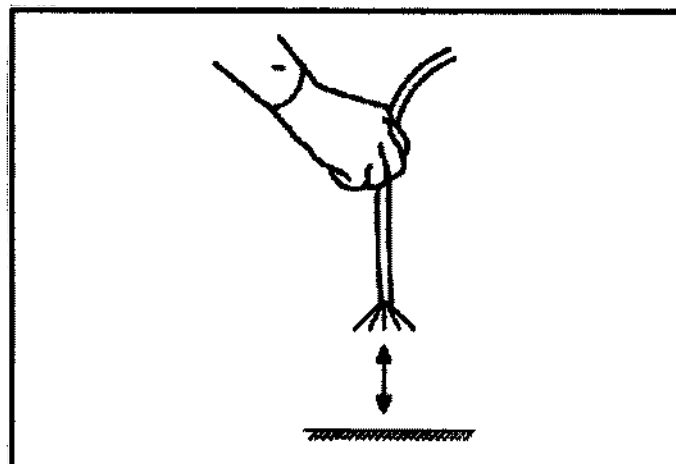

Fig 3.3
3. Point the endoscope's distal tip to a suitable object, and move between 1cm and 6 cm. Confirm that the brightness of the image on the LCD screen remains constant. (Fig 3.3)